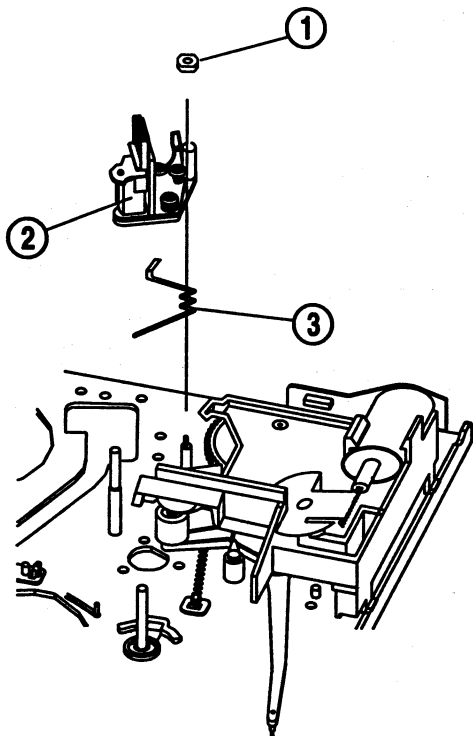

Fig. 21- A/C Head Assembly Removal
A/C Head Assembly Removal (Fig. 21)
1. Remove one (1) nut hex from the A/C head assembly ① (Fig. 21)
2. Remove the A/C head assembly ② and remove the A/C head spring ③ from the A/C head assembly ②.